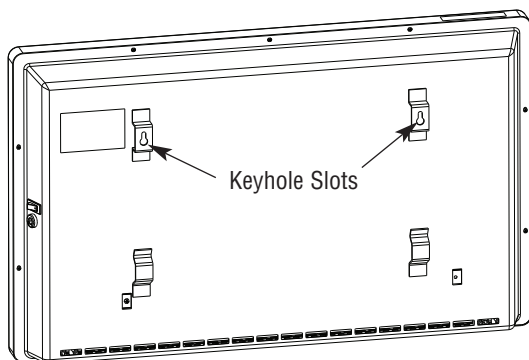

Figure 2
2. For **wall mounting** applications, omit Step 1 above. Use appropriate fasteners and drill 2 holes in the desired location, 15-3/4" apart, center to center, so that the heater bottom is about 20" from the floor. Allow the fasteners to extend at least 1/4" from the wall and fit the keyhole slots in the heater back onto the fasteners (see Figure 2). Make sure the heater is secure.